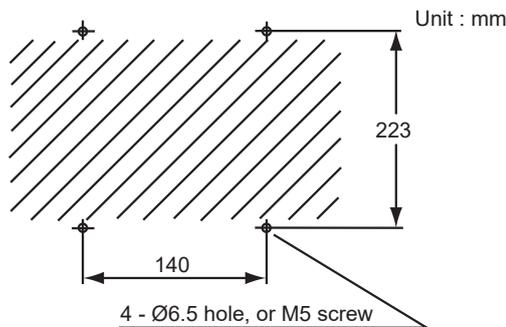

Figure 3.5 Mounting holes
- (1) Make a hole in the wall as illustrated in Figure 3.5.
- (2) Mount the flow setting unit. Remove the pipe mounting parts from the mount fittings of the flow setting unit and attach the unit securely on the wall with four screws.